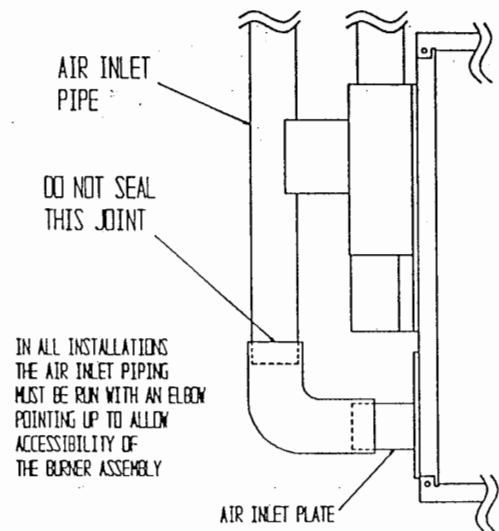

FIGURE 7
- 3). All units must have a 90° attached to the air inlet plate with elbow pointing upward as shown in Figure 7. Do not seal the top joint of the elbow. This joint must be left unglued to facilitate the removal of the burners during any required maintenance.